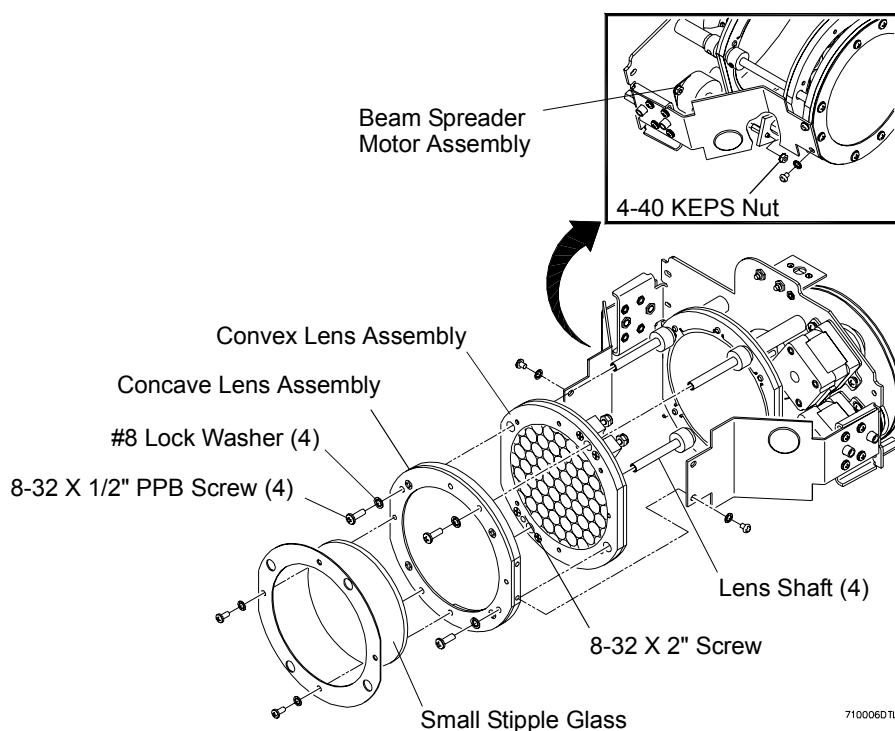

Figure 2-15: Convex Lens Assembly Replacement
- Step 4. Using 1/4" nutdriver, remove one 4-40 KEPS nut on end of beam spreader motor assembly shaft (Figure 2-15).